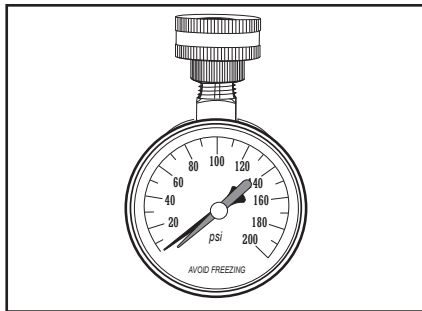

Figure 4 - Use a Water Pressure Gauge to make sure your home's water pressure is not too high.
- Water Pressure Gauge (see next page, Figure 4)
We recommend checking your home's water pressure with a pressure gauge (Figure 4). Most codes allow a maximum incoming water pressure of 80 psi. We recommend a working pressure no higher than 50-60 psi.